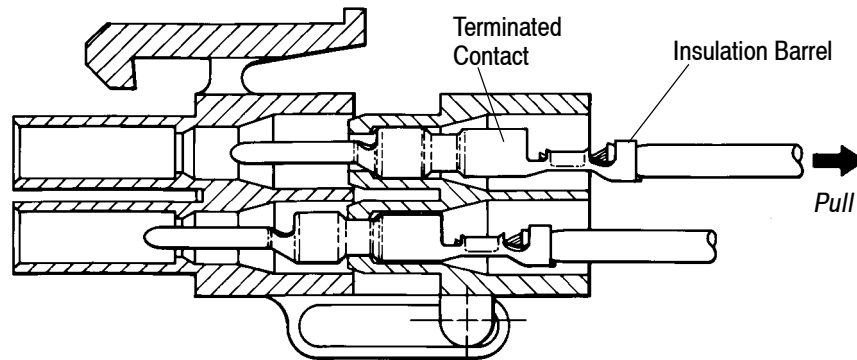

Figure 10
2. Grasp the selected wire by the insulation barrel and pull using a twisting motion, until terminated contact is free from housing as shown in Figure 10.